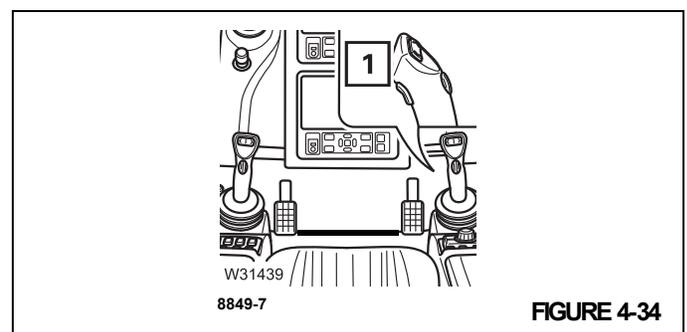

FIGURE 4-34
4. Do not press either Dead Man's Switch (1), (Figure 4-34).
- Press and hold the right dead man's switch (1), (Figure 4-34) and slowly lift the hook block.